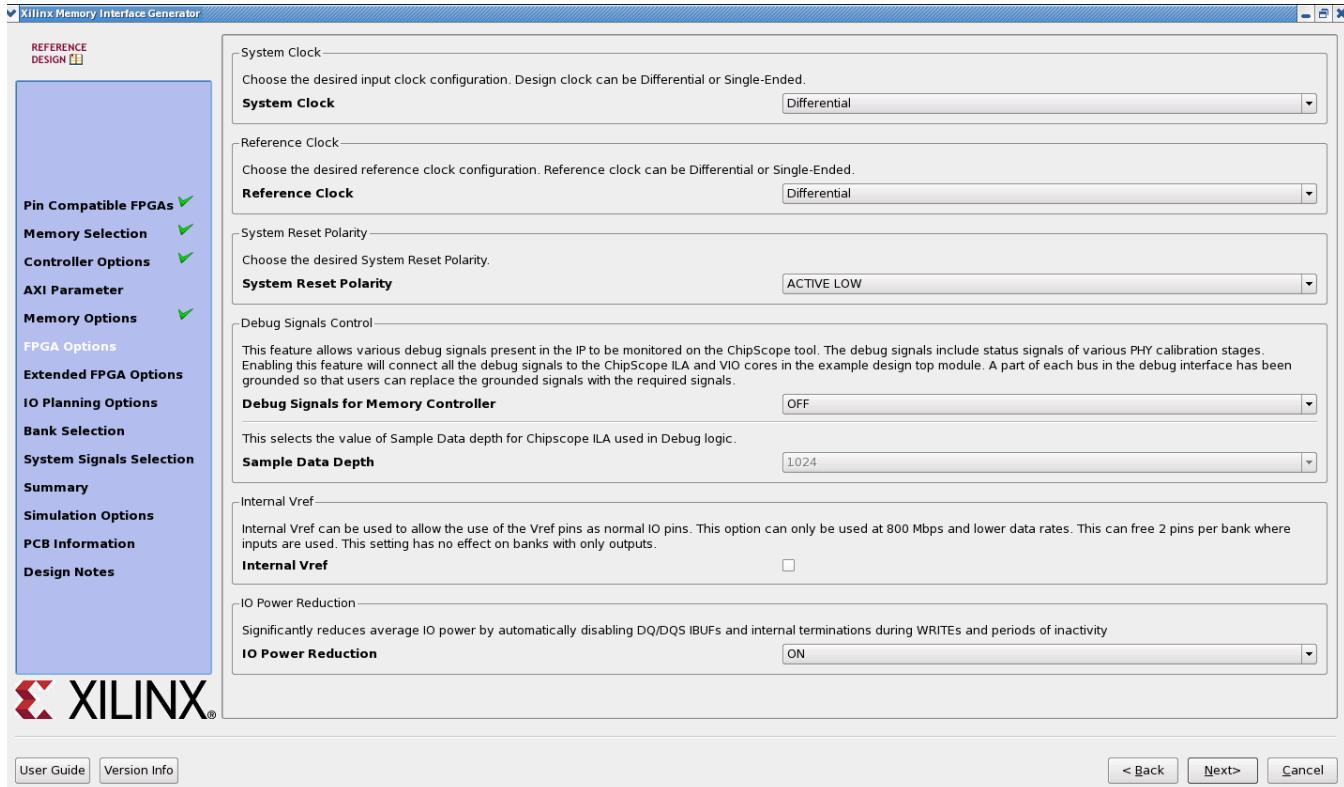

Figure 4-9: **FPGA Options**
Figure 4-9 shows the FPGA Options page.
- **sys\_clk** – This is the system clock input for the memory interface and is typically connected to a low-jitter external clock source. Either a single input or a differential pair can be selected based on the System Clock selection in the FPGA Options page (Figure 4-9). The **sys\_clk** input must be in the same column as the memory interface. If this pin is connected in the same banks as the memory interface, the MIG tool selects an I/O standard compatible with the interface, such as DIFF\_SSTL12 or SSTL12. If **sys\_clk** is not connected in a memory interface bank, the MIG tool selects an appropriate standard such as LVCMOS18 or LVDS. The UCF can be modified as desired after generation.
- **clk\_ref** – This is the reference frequency input for the IDELAY control. This is a 200 MHz input. The **clk\_ref** input can be generated internally or connected to an external source. A single input or a differential pair can be selected based on the System Clock selection in the FPGA Options page (Figure 4-9). The I/O standard is selected in a similar way as **sys\_clk**.
"Polarity" option chosen in **FPGA Options** page (Figure 4-9).